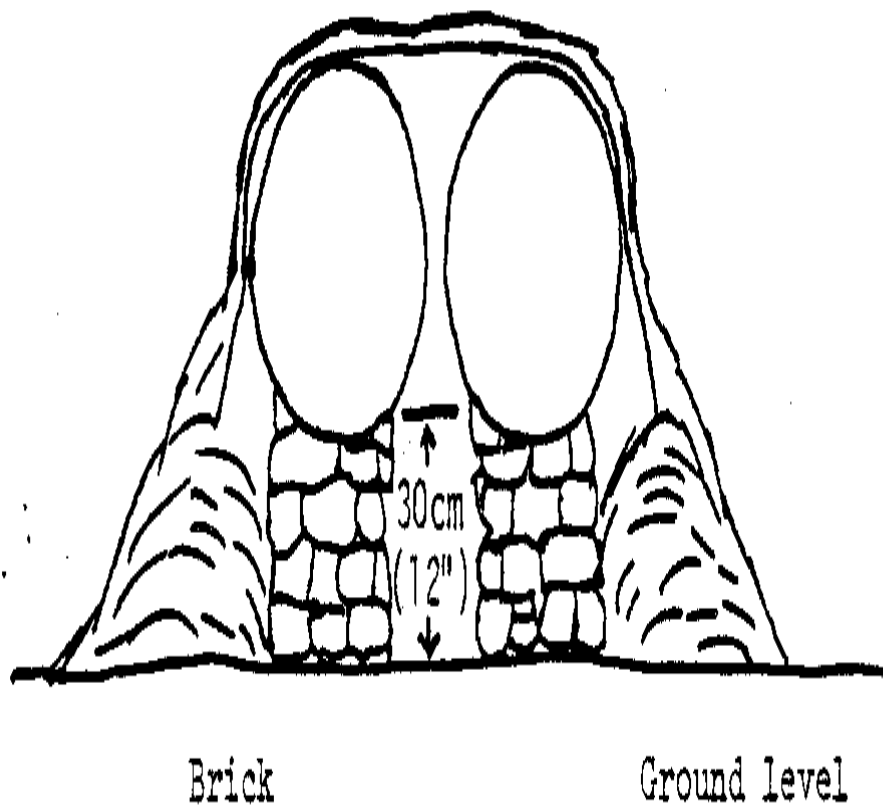

Figure 10
* Make two neat piles of bricks or stones. The piles should be about 90cm (35-1/2") apart. Rest the chambers on these piles. The joints where the barrels are welded together must rest on the piles. The bottom of the chambers should be about 30cm (12") above the ground. The fire is made in the space under the two chambers. <see figure 10>